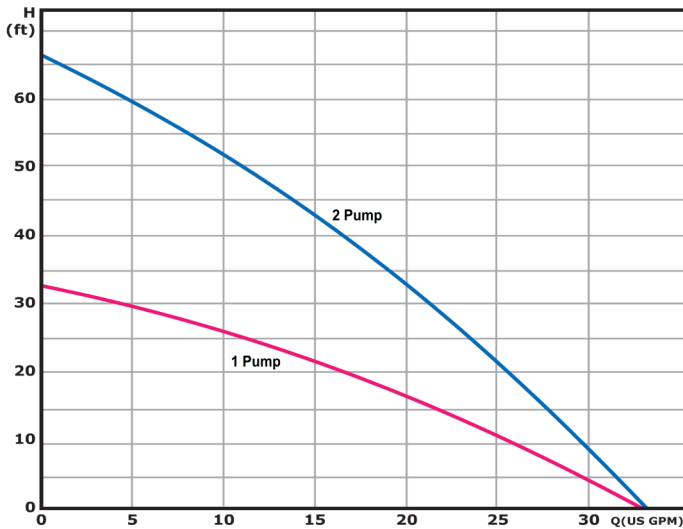

Fig. 1. Low Head Pump Center Flow Chart
The EA® has two separate pumping circuits designed to work with two heat pumps or a large dual stage heat pump with two circuits. Each pumping circuit shall be checked with the performance curves (**See Figs. 1, 2**). To ensure adequate flow, the selection must be based on your specific system design. Total system flow shall be no greater than 28 GPM.
1. By using the flow meter tool, monitor the flow (GPM) being pumped through the entire system. If the flow is not correct, check that the proper flow center has been selected for the application using pump curves (**See Fig. 1, 2**). If the pump curve indicates the proper flow center was installed and the GPM is less than the system requires, an obstruction in the system is restricting flow.